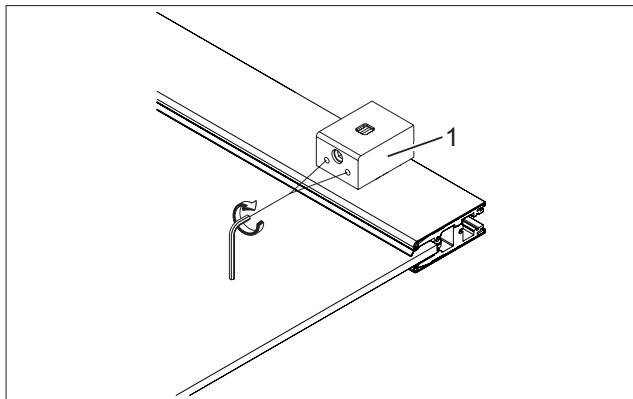

Fig. 13 Installing the slide bolt bottom section
- Place the slide bolt bottom section (Fig. 13/1) on the adapter and screw together.